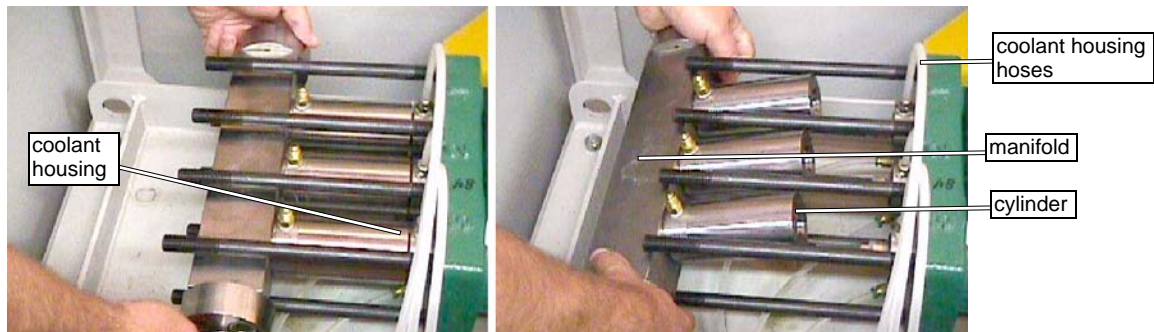

Figure 5-5: Removing the Wet End Assembly
6. Slide the Wet End Assembly away from the Coolant Housings. See Figure 5-5. Keep the assembly level and square, being careful not to bind the internal Plungers. All components typically stay in the Cylinders as the Wet End Assembly is removed.